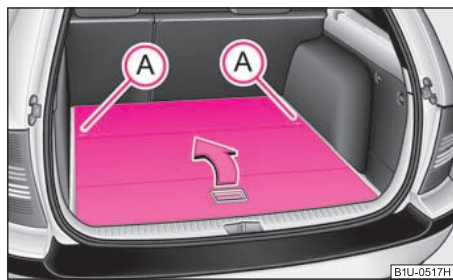

Fig. 78 Variable loading floor
- Unlock the loading floor by turning the locking bolts ① by approx. 90° to the left ⇒ fig. 78.